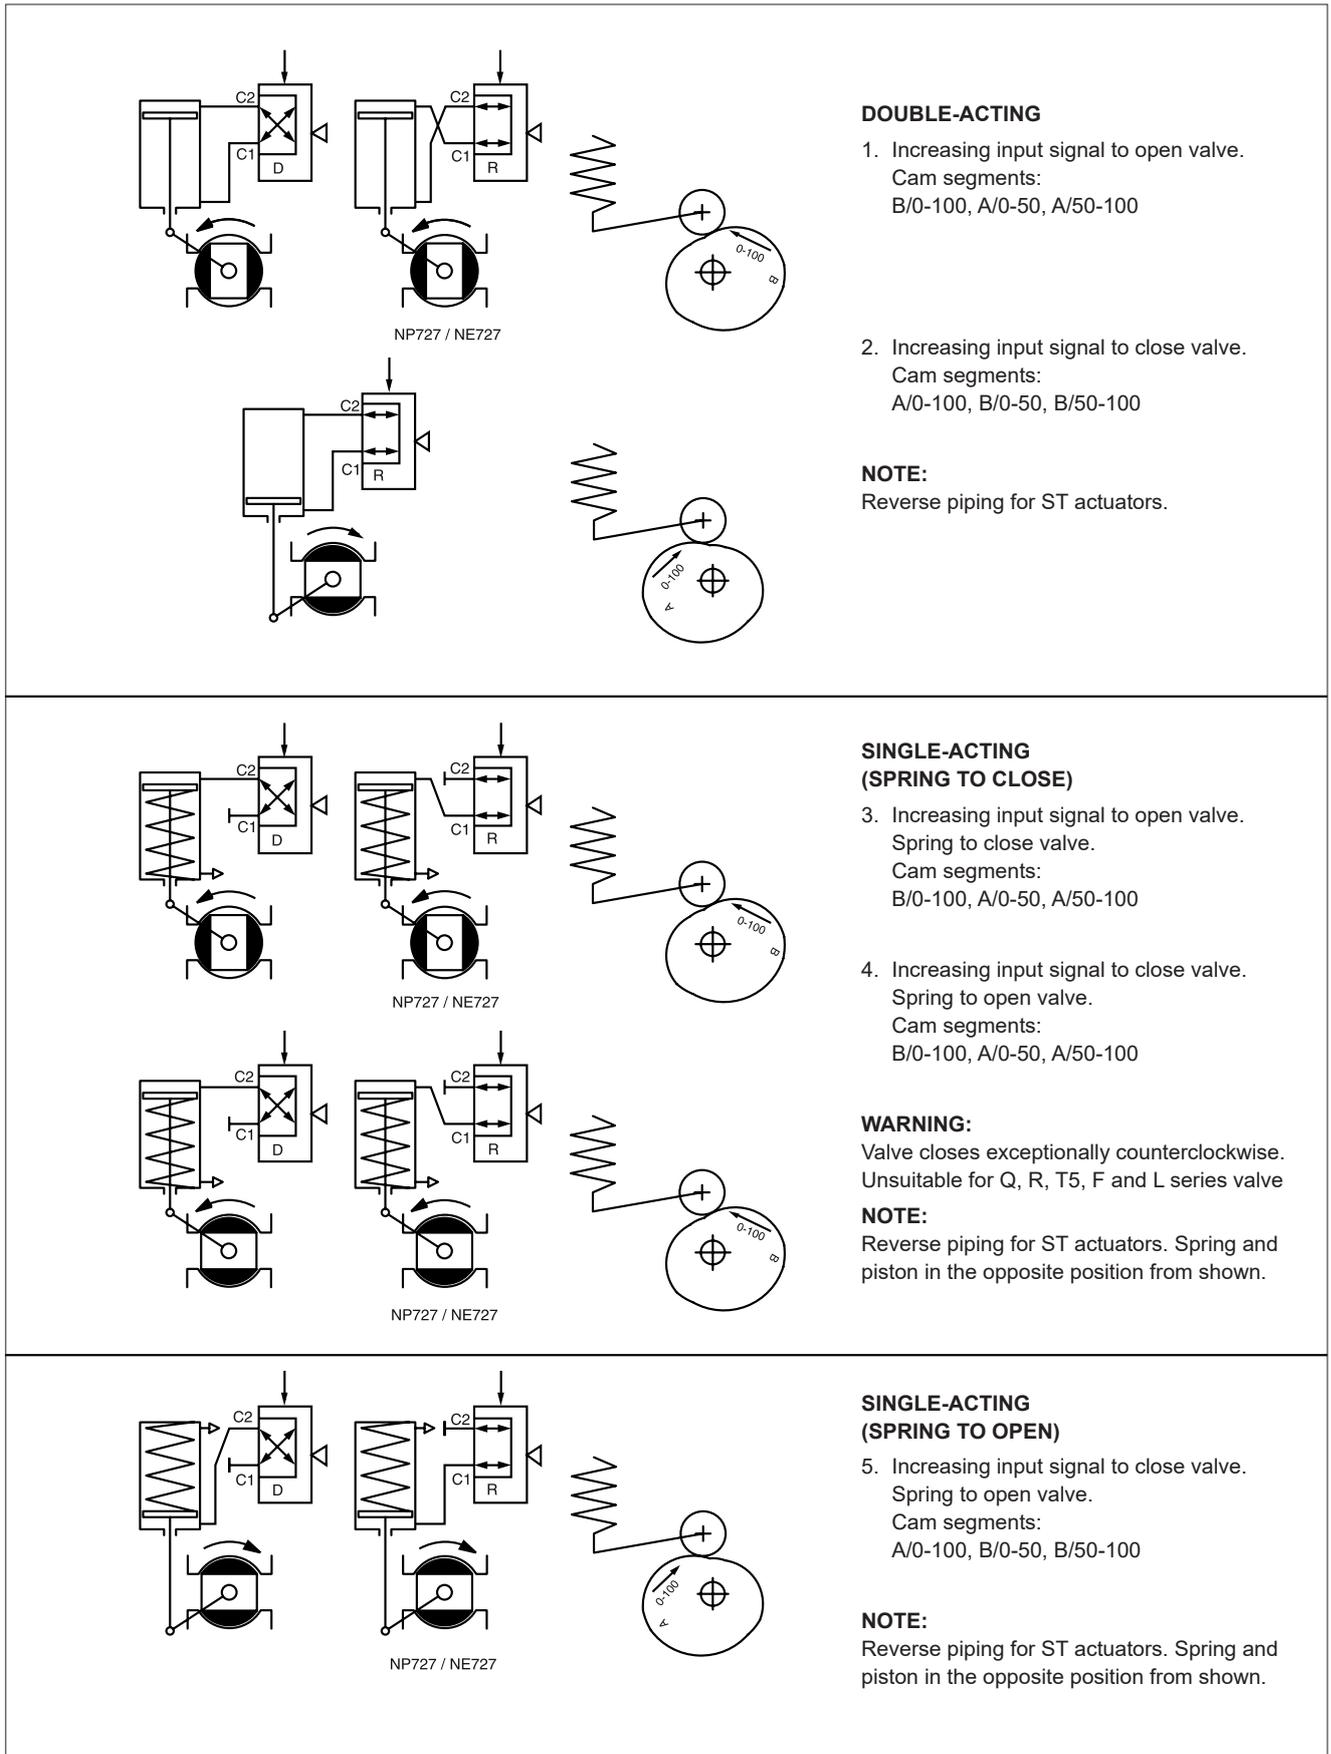

Fig. 5. Positioner actions
2. Install the pointer (only B_U) parallel with the valve closure member and fasten the draught piece (2) with a screw (29) to the pointer cover (B_U) or to the coupling (QP), as shown in Fig. 5. Secure the draught piece fastening screw with a sealant (e.g. Loctite) and tighten it properly.
3. Fasten the mounting bracket (1) to the positioner.
4. Fasten the mounting bracket (1) to the actuator.